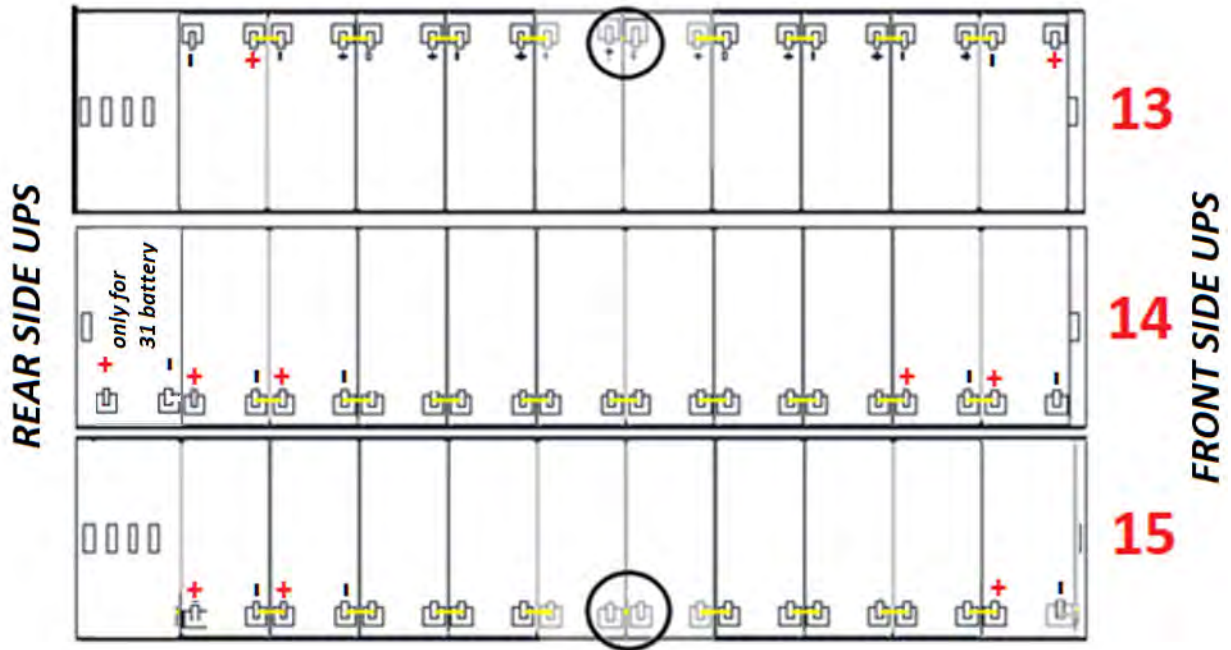

Figure 20 - View from above Level No.5
13) On Level no. 5, insert trays no. 13-14-15 in compliance with the position as demonstrated in Figure 20.